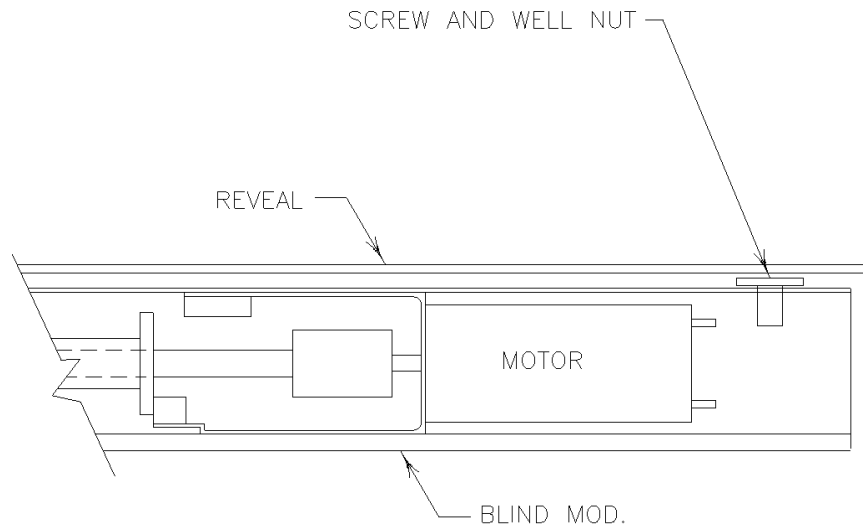

FIGURE 14/ GRAPHIC 25-23-02-991-014
- C. Reattach the blind mod. assy. by aligning the well nuts with the existing holes on the backside of the reveal, and secure in place with two AN525-832 screws. (See FIGURE 14/ GRAPHIC 25-23-02-991-014)